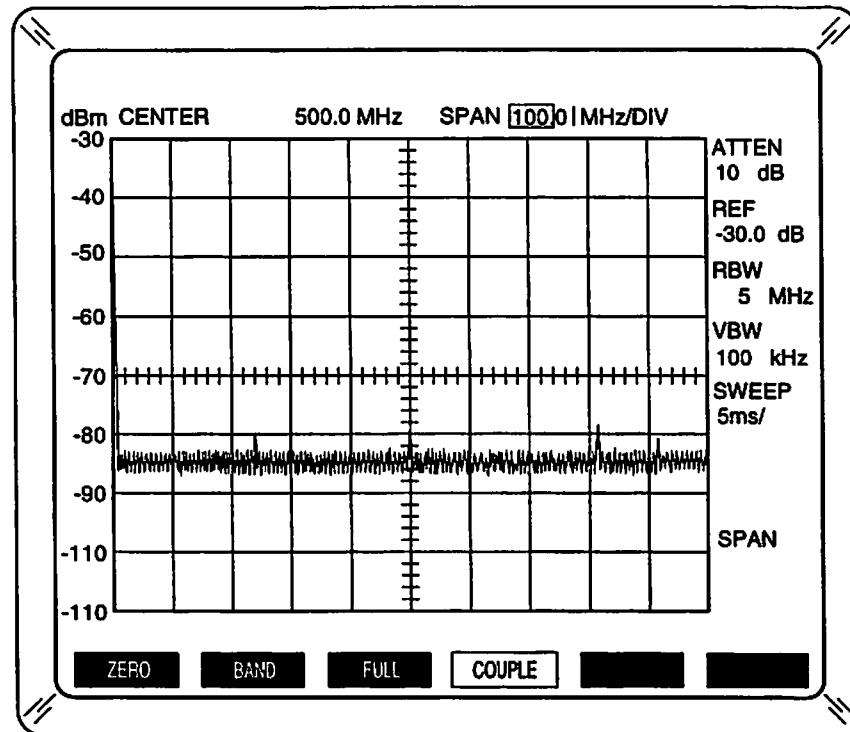

Figure 7-5 Ambient Signals
11. Verify Display shows relatively flat trace with limited spikes (ambient signals). Refer to Figure 7-5.